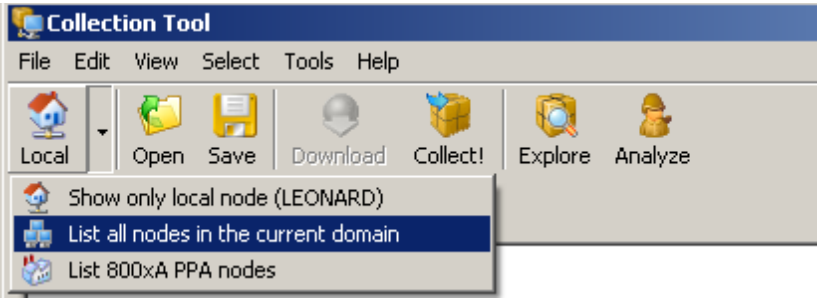

Figure 66. Collection Tool Options
3. Click the network type button in the top left corner of the toolbar to change the network type, see Figure 66.